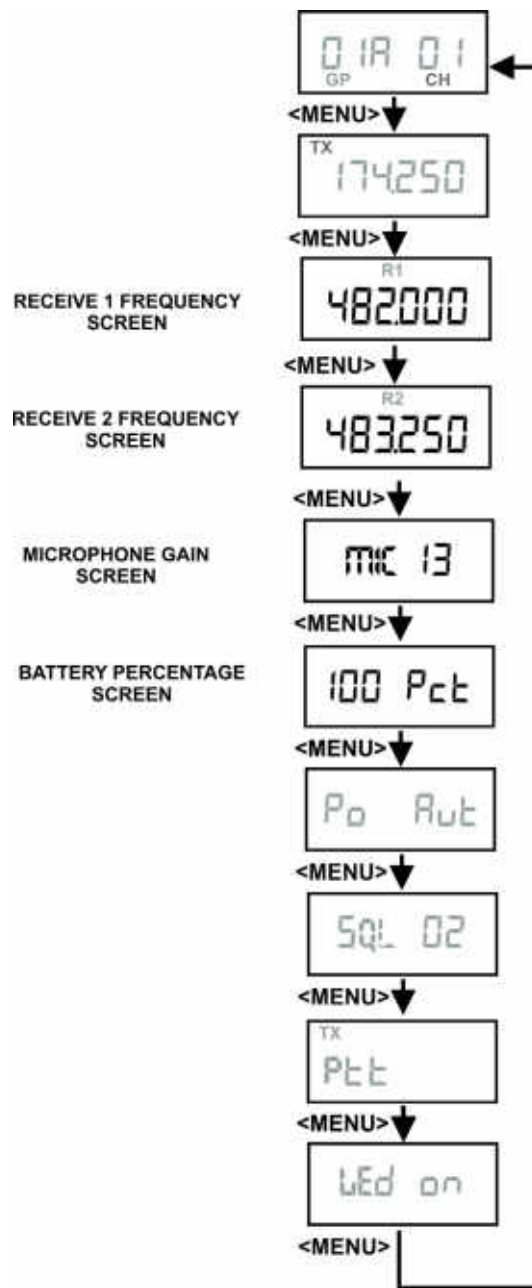

FIGURE 78.
1. Set the **unit** to the desired user-defined group and channels. See *Groups and Channels Instructions*. The menu structure in Figure 78 indicates how to get to the receive frequency screen.